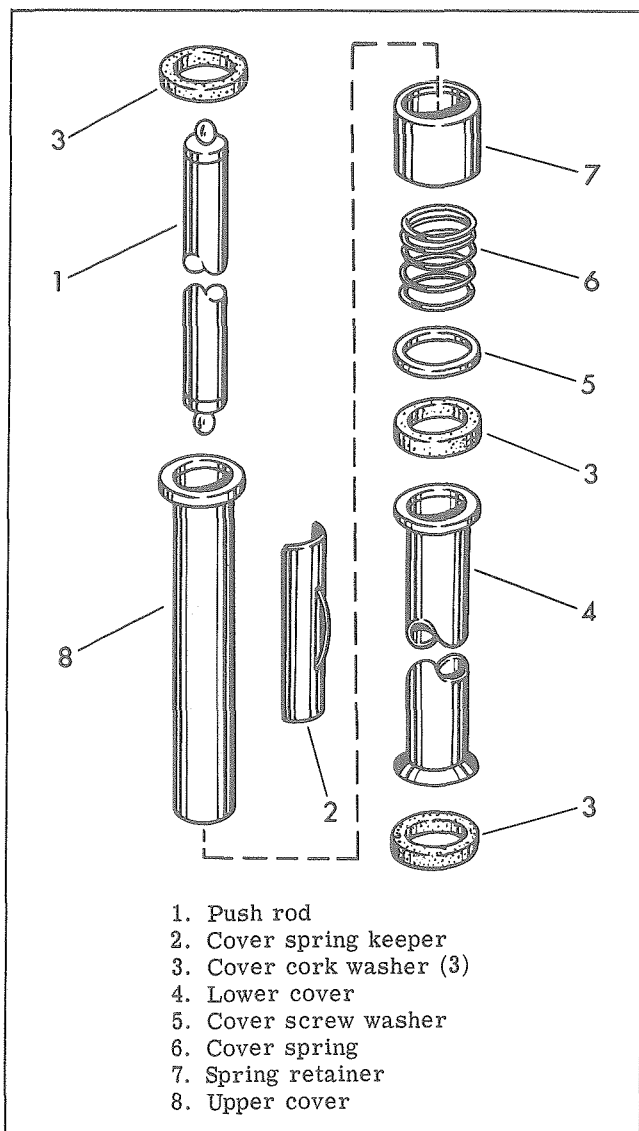

Figure 3B-6. Push Rod Assembly - Exploded View
Before removing cylinder head assembly, strip motorcycle as described in "Stripping Motorcycle For Engine Repair," Section 3A, steps 1-5, 7, 24-27. Free carburetor and manifold assembly from motorcycle by removing two manifold clamps and carburetor support bracket nut at crankcase. Loosen two oil line nuts (2, Fig. 3B-7), and remove spark plugs.
See Fig. 3B-6, and proceed as follows. Open push rod covers. Press push rod cover spring retainers (7) down and remove push rod cover keepers (2). Telescope lower push rod cover (4) over upper cover (8).
To remove cylinder head assembly, turn engine until both valves are closed in cylinder head. Remove cylinder head bolts (1, Fig. 3B-7). Free cylinder head and rocker arm cover assembly (from left side of motorcycle), valve push rods and push rod covers and oil lines in one operation. Mark push rods in some manner to identify them as to cylinder head and valve from which they were taken. If push rods are reinstalled in same locations from which they were removed, a minimum amount of valve adjusting should be necessary. If the cylinder head does not come loose on removal of head bolts, tap lightly with rawhide hammer. Never try to pry head off.